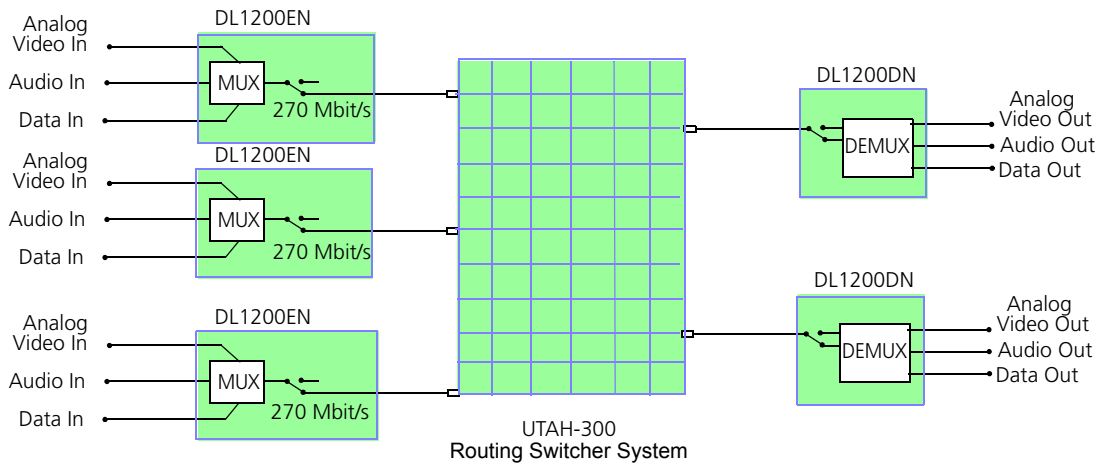

Figure 5-2. DigiLink DL1200EN and DL1200DN Configuration
Figure 5-2 illustrates several DigiLink DL1200 encoders transmitting Artel-270 via their electrical output ports through a Utah Scientific UTAH-300 Routing Switcher System to several DL1200 decoders.
Note: As indicated in Figure 5-2 above, the routing switcher accepts the input signal at a data rate of 270 Mbit/s. When you are using Utah Routing Switchers in your video transport system, make sure that the DATA RATE MBPS switch on your encoders (item 38 in Figure 3-2 on page 3-3) is set to 270. A DigiLink encoder *cannot* communicate with a Utah Routing Switcher at 269.2 Mbit/s.